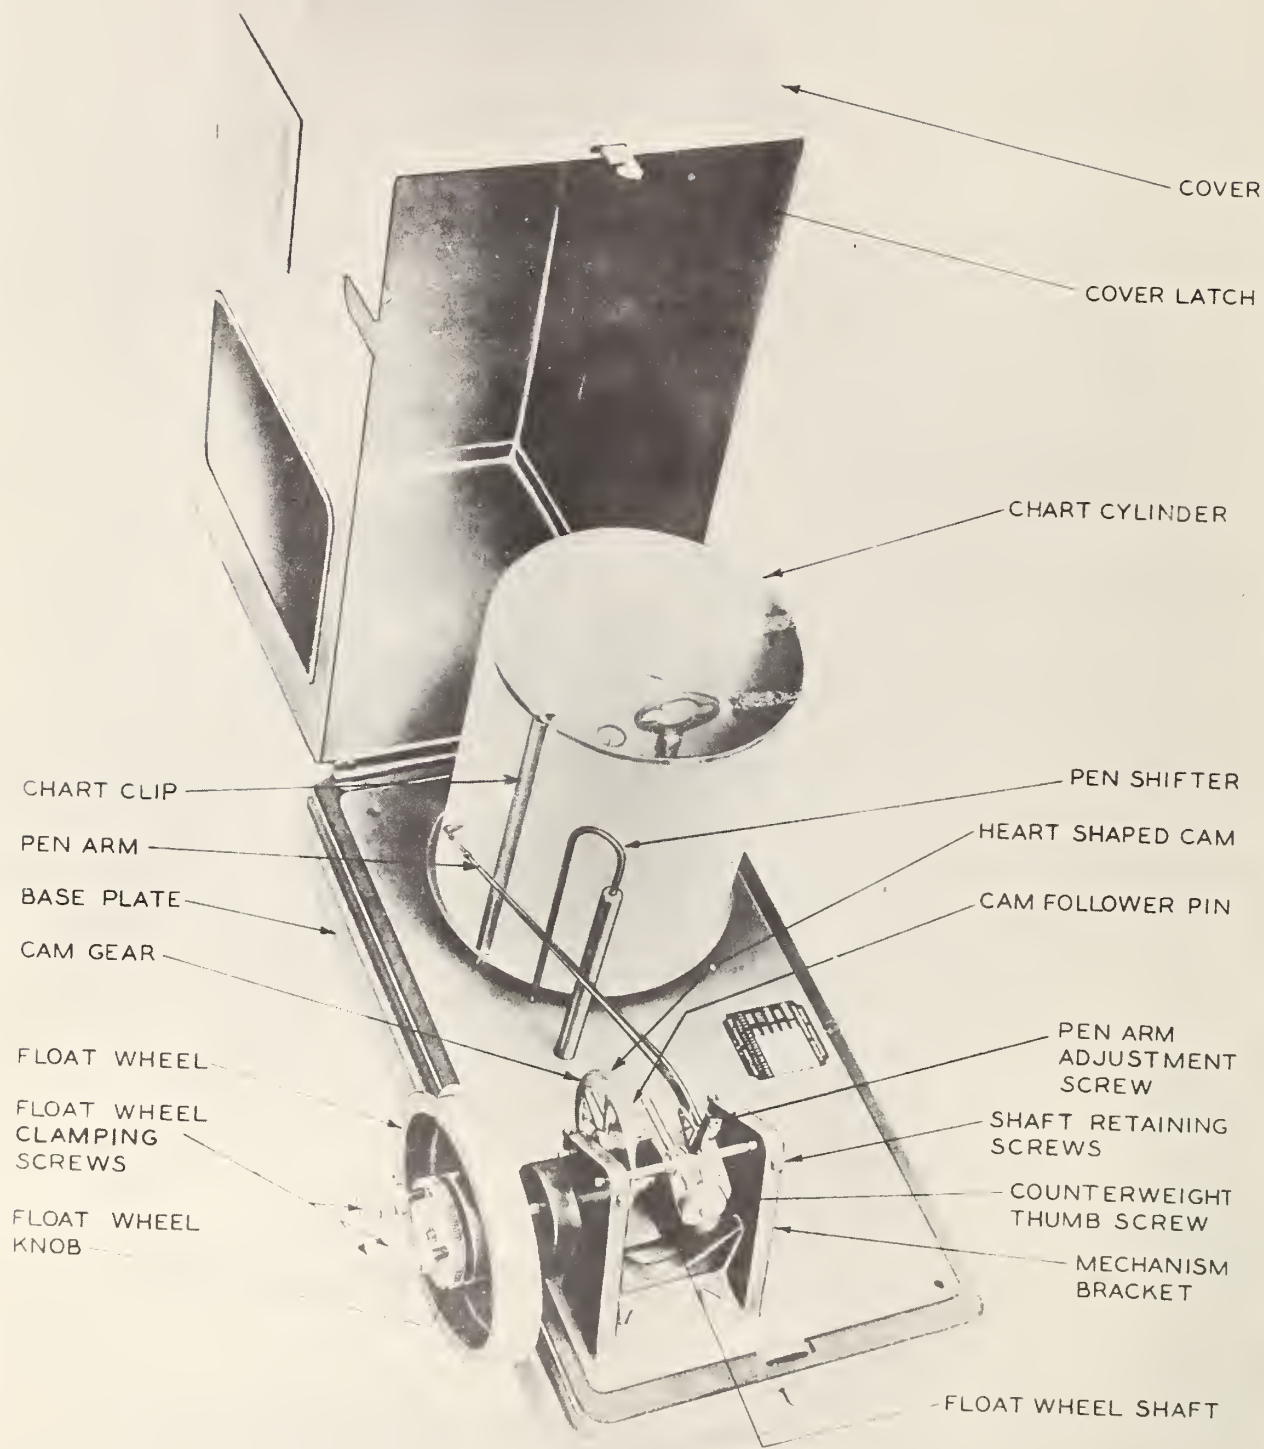
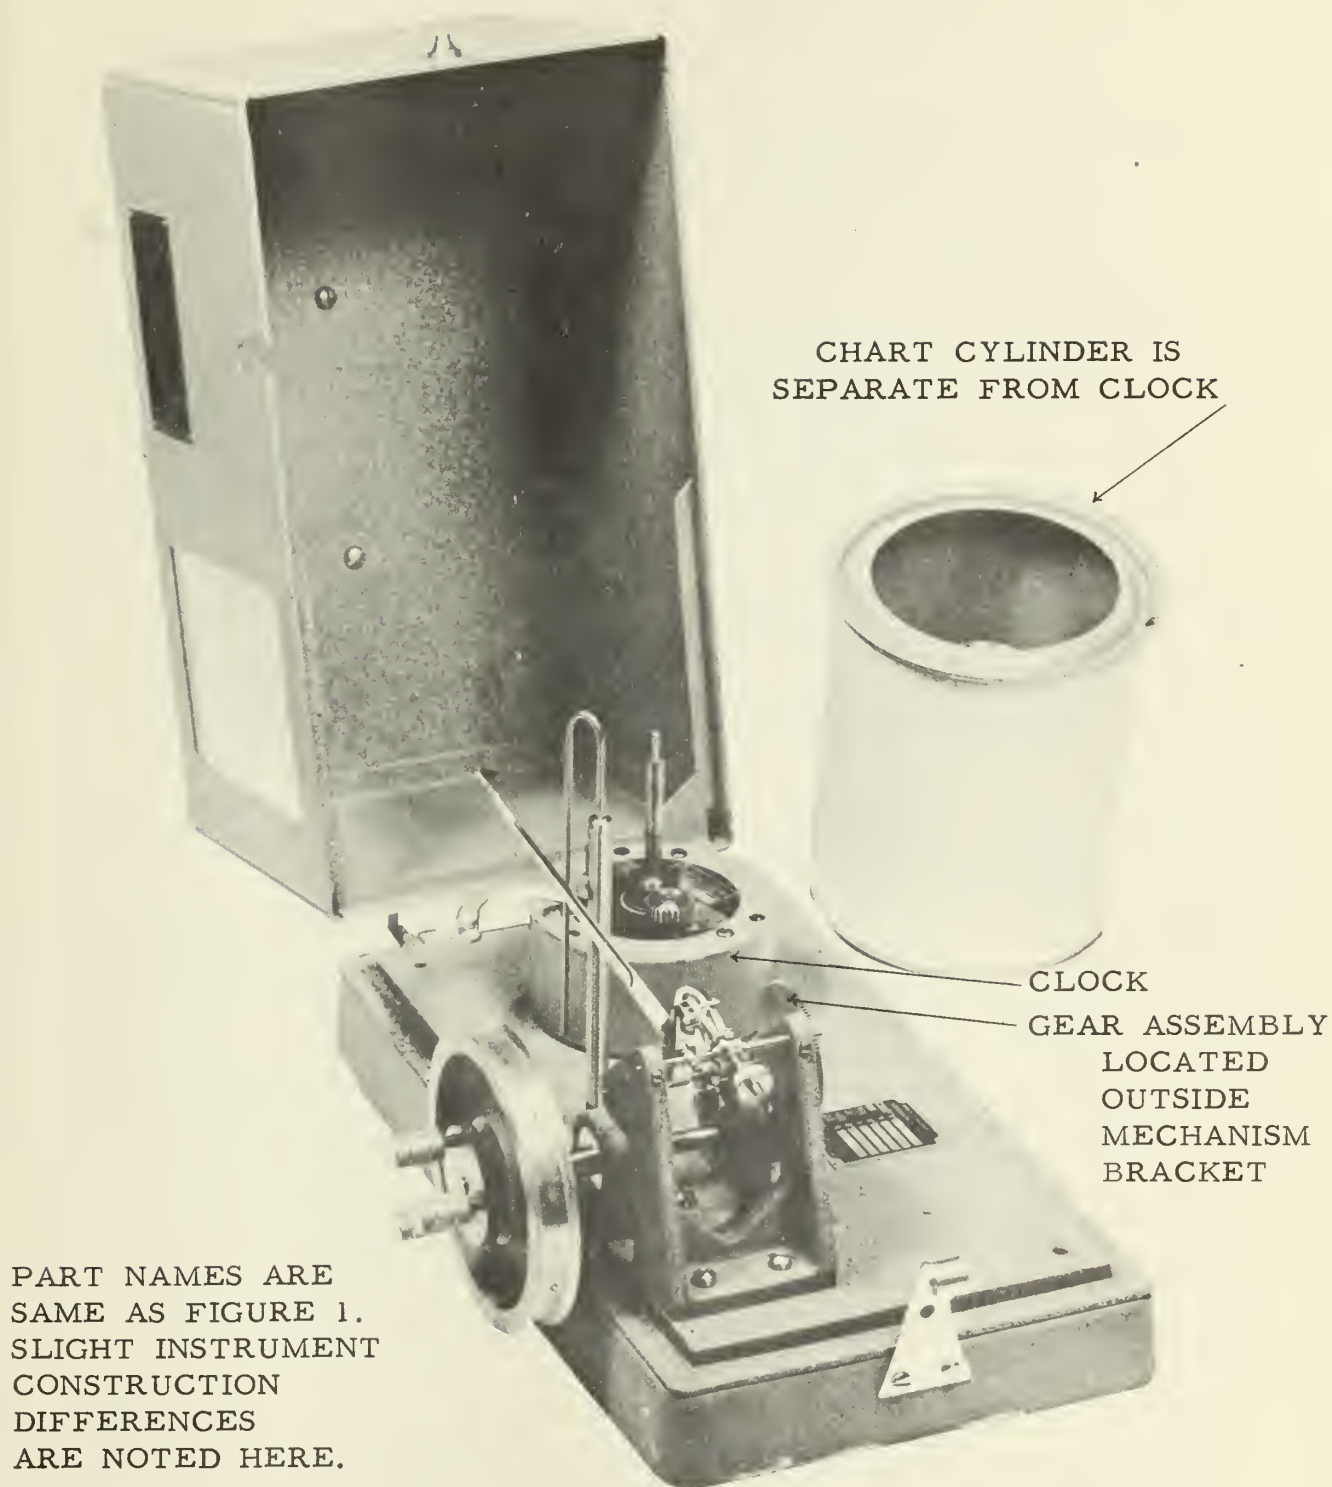

Figure 1.--Type A. Portable water recorder, Model FW-1 (cover raised).
Figure 2. --Type B. Portable water-level recorder, Model FW-1.
These instructions are intended for field personnel responsible for the operation and maintenance of FW-1 water-level recorders manufactured by the Belfort Instruments Corporation2 or the Bendix Corporation. Two types of recorders have been manufactured by these companies. One has the clock mechanism contained in the chart drum (fig. 1), here called type A; and the other in which the clock is separate from the chart drum (fig. 2), here called type B. The instruction booklets that come with the instruments omit detailed directions for cleaning and adjusting the instrument. Instead, they recommend sending the recorders back to the factory for such adjustments. Under field conditions this is often impossible. This set of instructions should assist field personnel in making on-the-spot adjustments and in tearing down, cleaning, and readjusting the instrument in a shop or laboratory.
1. Before adjusting the instrument, the float, float tape, and weight should be put on the instrument (see fig. 1 for part names). A check should be made of the distances the pen registers with respect to the float. The float and pen should be checked at 0.1-foot intervals starting at zero and continuing through the reversal at 1 foot and back down to the 2-foot reversal. If higher flows have been encountered since the last servicing, continue the check to maximum peaks. If discrepancies exist the pen register and distance traveled by the float should be recorded on a chart which then can be used to correct past records. Extend corrections as far back on past charts as seems warranted.
2. Open instrument and remove chart cylinder (see fig. 1 for part names).
6. Remove wing nut, clock shaft, gear, washer, and clock (on type B instruments, see fig. 2) from base plate.
- a. Remove 24- or 96-hour gear from base of clock or top of clock (on type B instruments, see fig. 2) with a twisting motion after pin and washer are removed. Clean gear with toothbrush and solvent. Clean the shaft the gear was on with tissues or steel wool if corroded. Hold upright or upside down (on type B instruments) to prevent steel wool from dropping in clock.